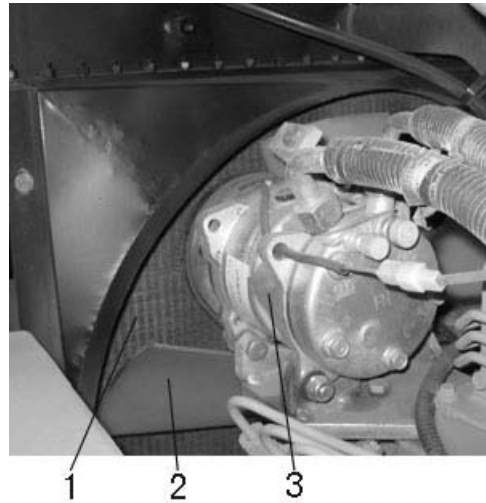

Figure 3-18
3.4.3.5 Check and clean the radiator (figure 3-18)